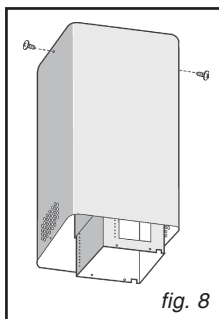
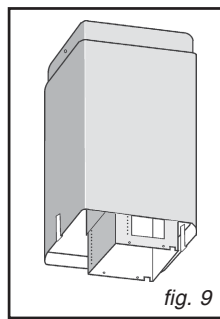
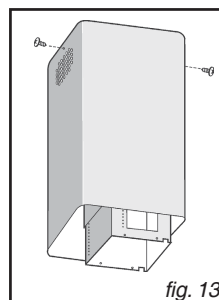

fig. 8
fig. 9
fig. 13
- Take the upper flue (the one with the round slots) and fit it on the telescopic structure with the slots at the bottom; secure the flue to the bracket with 2 screws (Fig. 8). Take the lower flue and fit it in the same way as the upper flue; slide it upwards and secure it in that position with some adhesive tape (Fig. 9).
- Take the upper flue (the one with the round slots) and fit it on the telescopic structure with the slots at the top; secure the flue to the bracket with 2 screws (Fig. 13). Take the lower flue and fit it in the same way as the upper flue; slide it upwards and secure it in that position with some adhesive tape (Fig. 9).